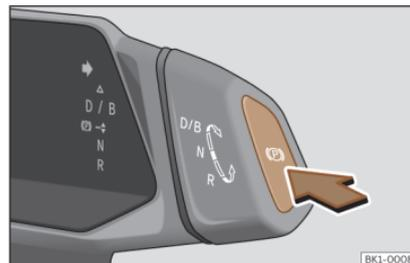

Fig. 118 On the gear selector: electronic parking brake button
- While the vehicle is stationary, press the button (E) >>> **Fig. 118**.
- Press the button  >>> Fig. 118. The electronic parking brake is activated.